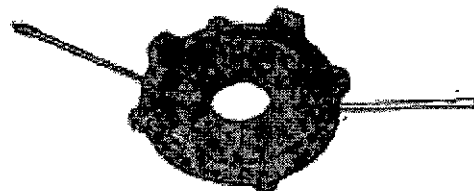

Figure 6-47
1. Remove the filler and drain grease pipes and the grease plugs from outer bearing cap. (Figure 6-47.)
5. Inspect the mounting pads for the PMG stator and exciter stator. Be sure they are smooth, clean, and free of any burrs or rust. That could interfere with proper alignment. (Figure 6-47 and 6-48.)